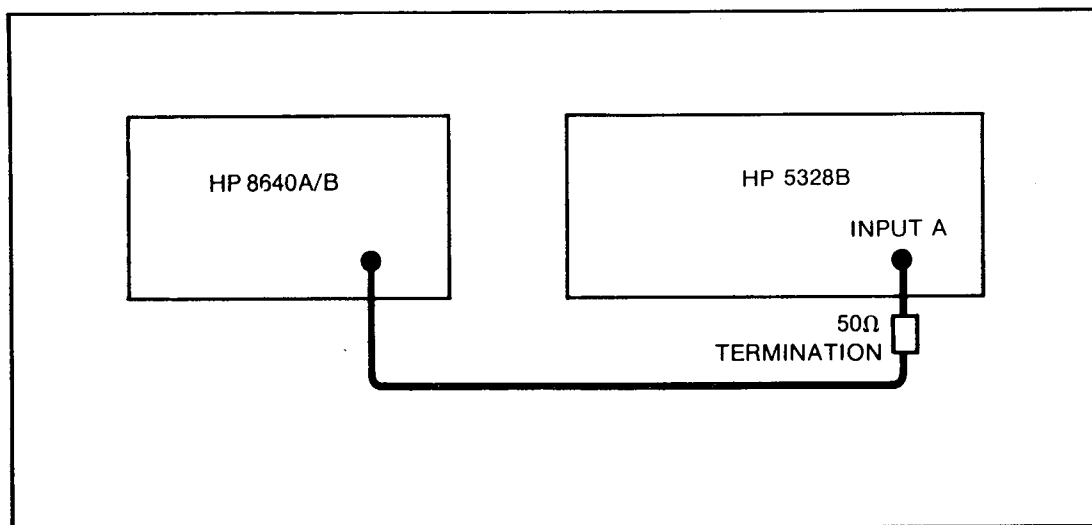

Figure 4-4. Totalizing Test (START/STOP) — Test Setup
- a. Set up the equipment for this test as shown in Figure 4-4.